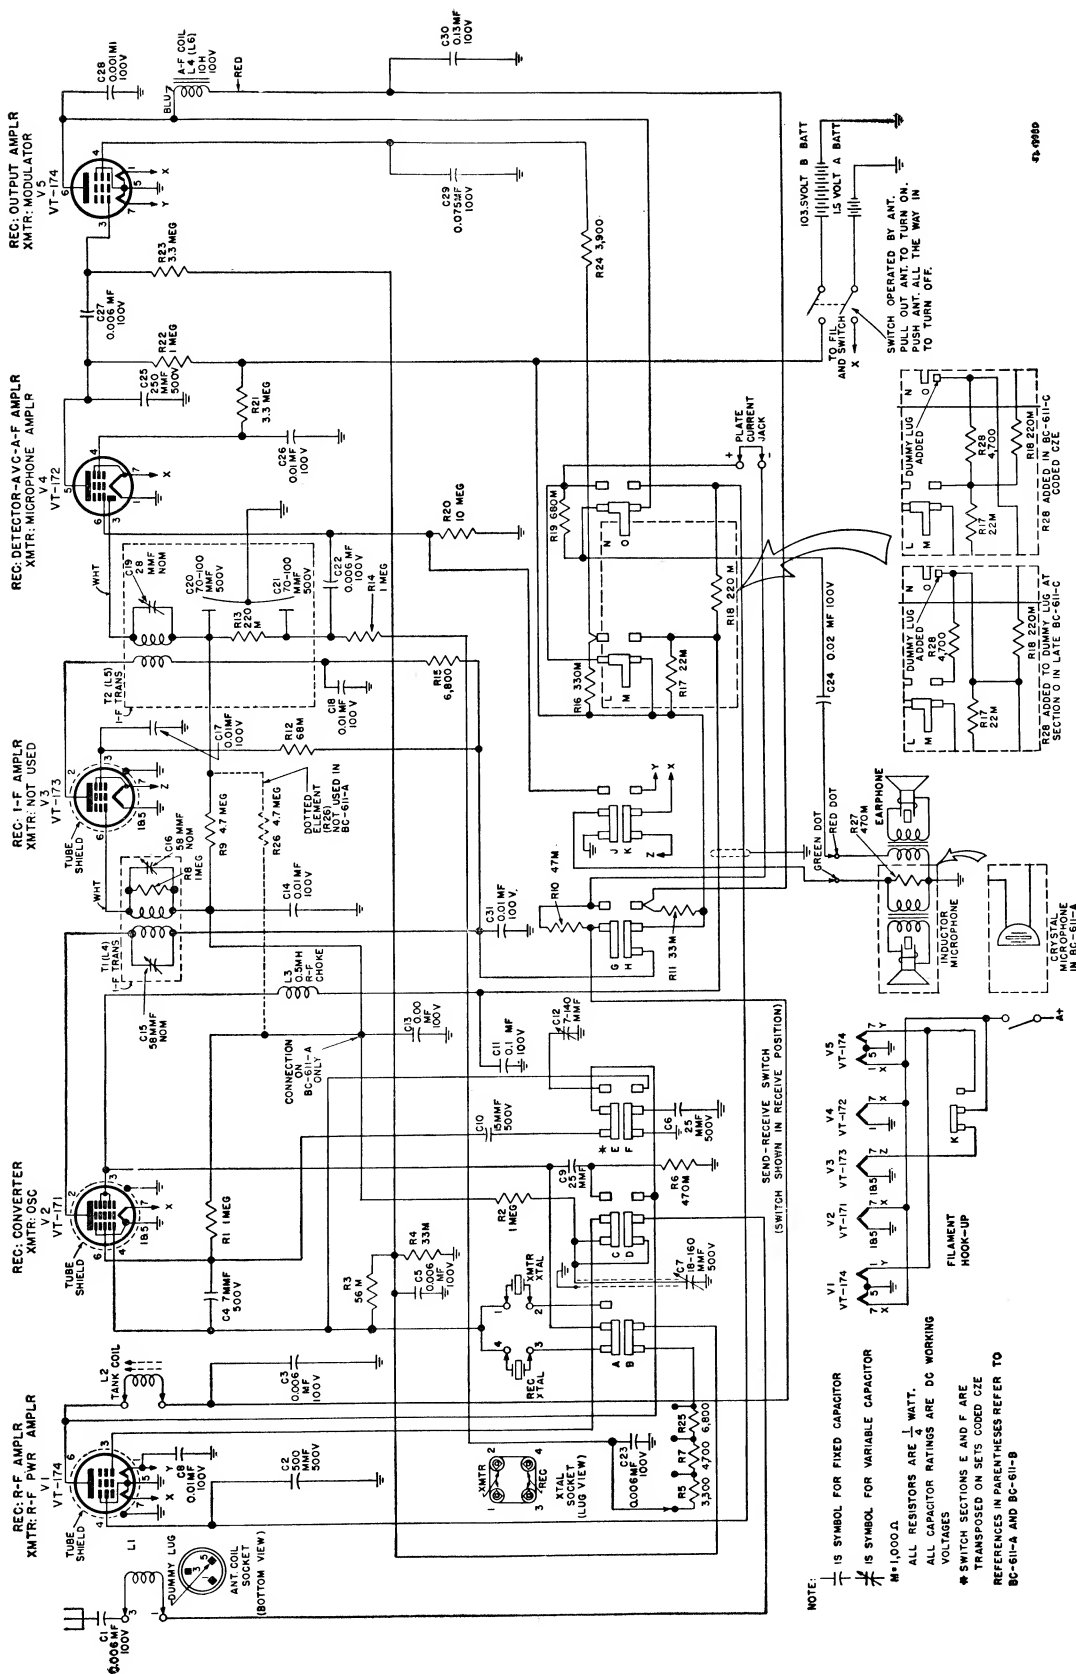

Figure 54. Radio Sets SCR-536-A through -E, complete schematic diagram.
(3) Complete schematic diagrams. (See figs. 54 and 55.)